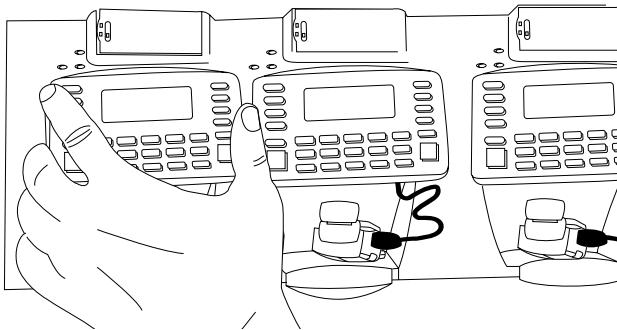

Figure 2-6. Inserting Wrist Computer into 4-Slot Cradle
2. Slide the WWC 1000 in the cradle as shown in Figure 2-6.